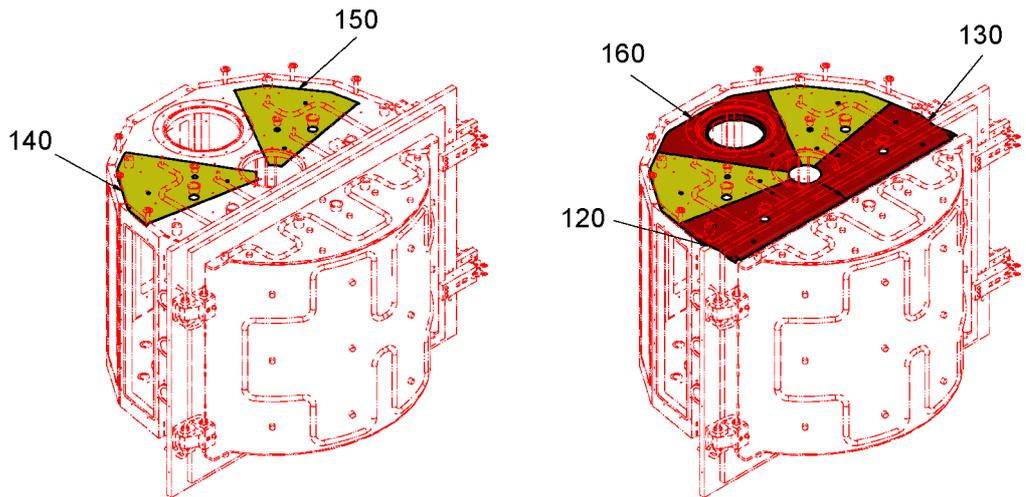

Fig. 7-12
4 Remove the sky shields. See Fig. 7-12, 175.
- 16** Mount the sky shields. See Fig. 7-12,  175.